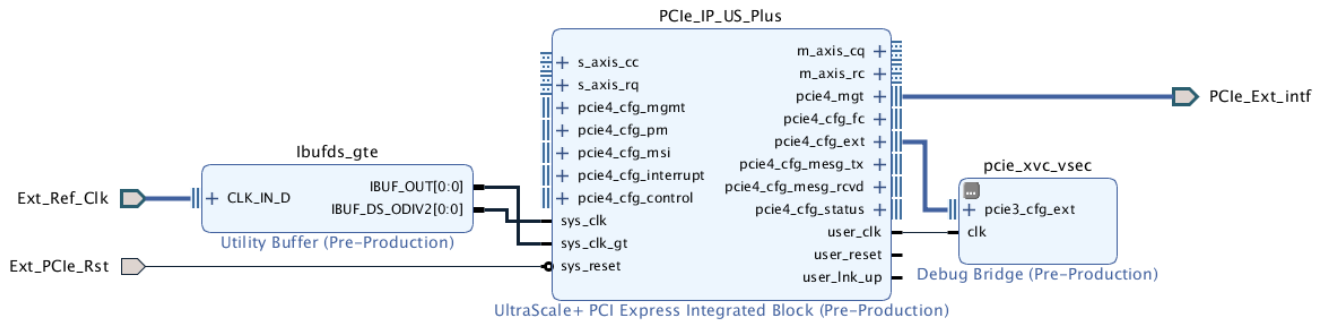

Figure D-2: XVC-over-PCIe with PCIe Extended Capability Interface
they do not interfere with PCIe memory BAR transactions at the PCIe IP boundary. This allows for separate data and debug communication paths within the FPGA. This is ideal if you expect to debug the datapath. Even if the datapath becomes corrupt or halted, the PCIe Extended Configuration Interface can remain operational to perform debug. Figure D-2 describes the connectivity between the PCIe IP and the Debug Bridge IP to implement the PCIe-XVC-VSEC.
**Note:** Although Figure D-2 shows the Ultrascale+ Integrated Block for PCIe IP, other PCIe IP (that is, the UltraScale Integrated Block for PCIe, AXI Bridge for PCIe, or PCIe DMA IP) can be used interchangeably in this diagram.